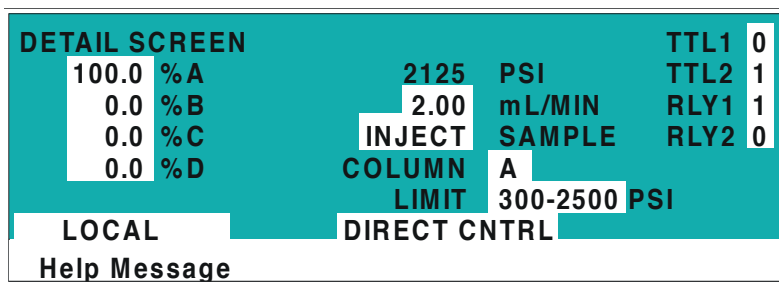

Figure 3-1. Detail Screen: Setting Pressure Limits
- When the pump is running under Local mode, Direct control, enter the pressure limits on the **DETAIL** screen (see Figure 3-1).